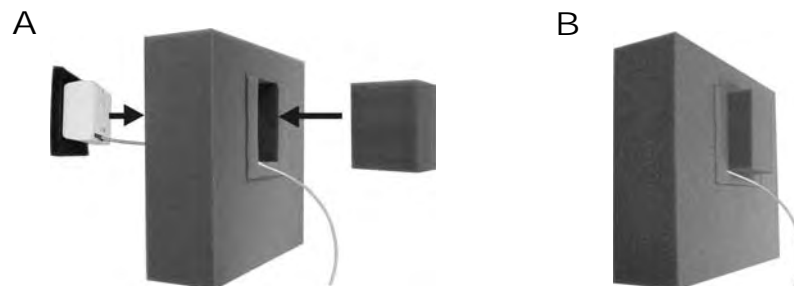

Figure 18. Placement of DM4 Microphone and foam cube in the foam enclosure
- Remove the small foam rectangular portion of the provided foam microphone enclosure, resulting in the two pieces of foam shown in Figure 18, A.
- Insert the DM4 Microphone cable through the hole in the foam enclosure, and place the microphone into the hole as shown in Figure 18, A, with its attached windscreen flush with the front of the foam enclosure.
- Insert the foam back into the hole in the foam enclosure, to fit snugly against the back of the microphone, as shown in Figure 18, A and B.